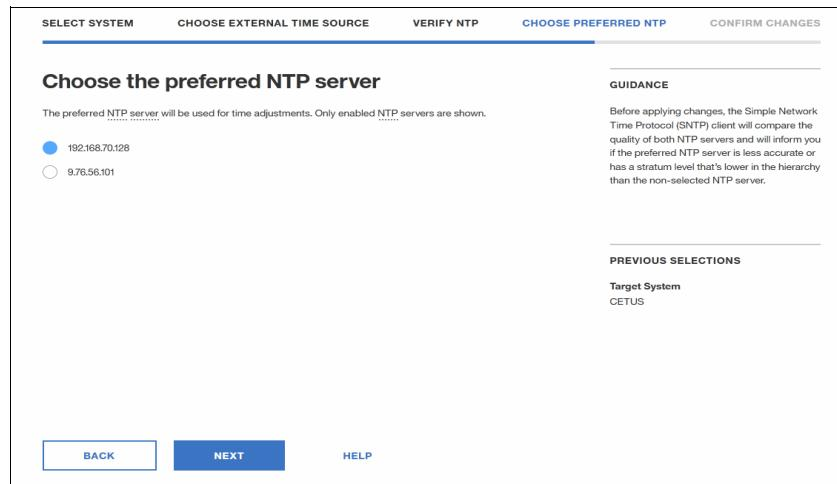

Figure 8-49 Choose the preferred NTP server
5. The **Choose the preferred NTP server** window opens. Select one of the NTP servers to be the preferred server. In our example, we select 192.168.70.128 as the preferred NTP server. Click **NEXT** to continue (Figure 8-49).